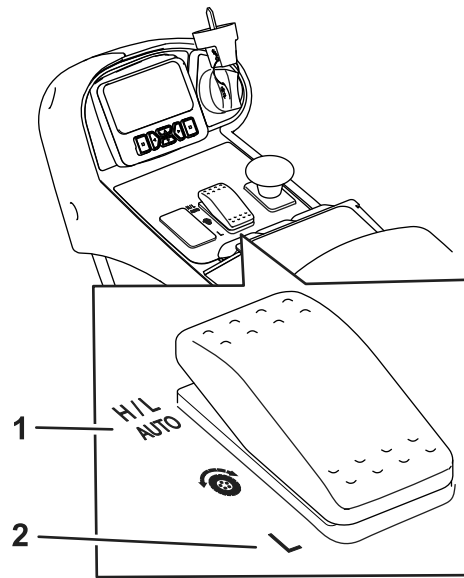

Figure 25
- Under normal operating conditions, this machine is intended to operate in the H/L AUTO position on the speed range switch (Figure 25). This position allows the machine to automatically switch between low and high speed ranges, depending on whether the machine is being used for mowing or transporting.
- When you select the LOW position on the speed range switch (Figure 25), the machine will always operate in low speed range. This setting is preferable for operation in a shop area, loading or unloading from a trailer, climbing steep inclines, or any other operation where the higher traction speeds of the high speed range is not desired.
This machine is equipped with 2 traction speed ranges; low and high. The speed range switch allows you to select the following positions (Figure 25):